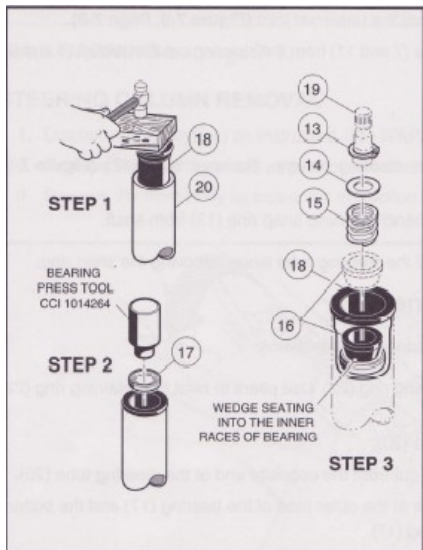

Figure 7-5 Steering Shaft Bottom End
2. Press the bearing all the way into the bearing seat using a steering column bearing press tool or a metal tube approximately six inches (15.2 cm) long with a maximum outer diameter of 1-3/16 inches (3.3 cm) and a minimum inside diameter of 7/8 in (2.2 cm). Be sure the bearing is installed in the bearing seat as shown (Figure 7-5) so the wedge (16) will ride against the inner race of the bearing.
3. Install the wedge (16), spring (15), washer (14), and snap ring (13) onto the bottom end of the steering shaft (19) (Figure 7-5).
5. Turn the assembly over and place the shaft (19) on a bench. Install the wedge (16) and retaining ring (22) onto the top of the shaft. Be sure the prongs on the retaining ring face up and away from the wedge. Use a steering column retaining ring tool to seat the remaining ring to the proper depth. Support end of tube while pressing. If you do not have the recommended tool, use the same tube as was used in step 2 to press the retaining ring onto the top of the shaft. The retaining ring should be pressed on the shaft until 2 to 2-1/8 inches (5.1-5.4 cm) of the shaft extends from the top of the bearing seat in the steering tube (Figure 7-5).